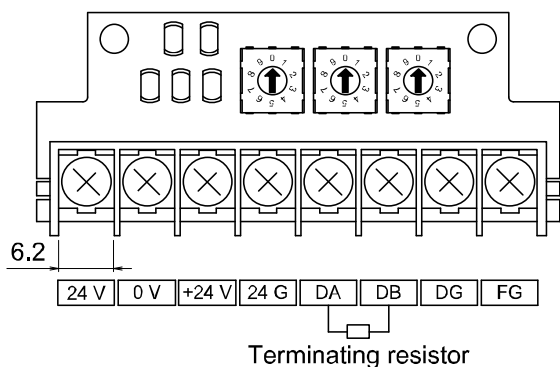

Fig. 3
- (3) The appropriate terminating resistor varies depending on the CC-Link cable used. (Refer to the table and Fig. 3 below.)